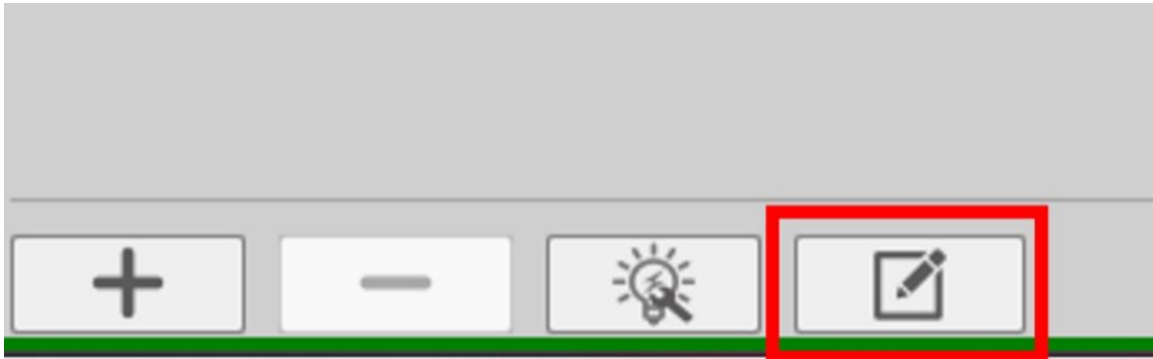

Fig. 7.161: Editing of already stored channels
- The “Edit already stored channels” button (see Fig. 7.161) software channels, such as formulas, statistics or power groups, which were calculated during recording, can also be modified offline. Dependencies of these channels are updated automatically. Additionally, it is also possible to change the name as well as the unit of hardware channels offline.